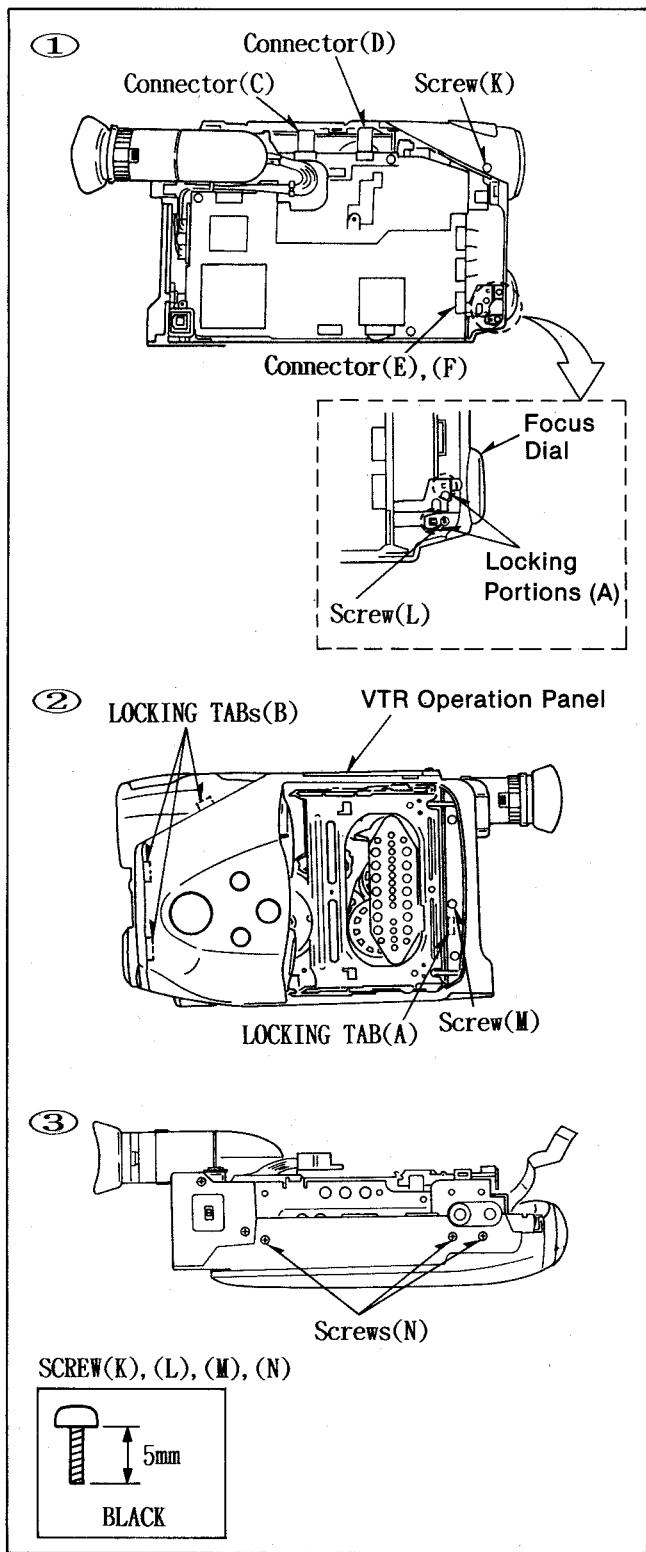

Fig. D5
- \*. To make easy disassemble, do (1) and (2).
(See Fig. D5 ①)
- (1). Removal.....Screw(K) and Screw(L).
(See Fig. D5 ②)
- (3). Removal.....Screw(M).
(See Fig. D5 ③)
- (4). Removal.....3 Screws(N).
- (5). Disconnect...Connector(C) and Connector(D).
- (1). Disconnect.....Connector(C) and Connector(D).
- (2). Remove.....Screw(K) and Screw(L)
- (3). Un-lock.....Locking portion(A).